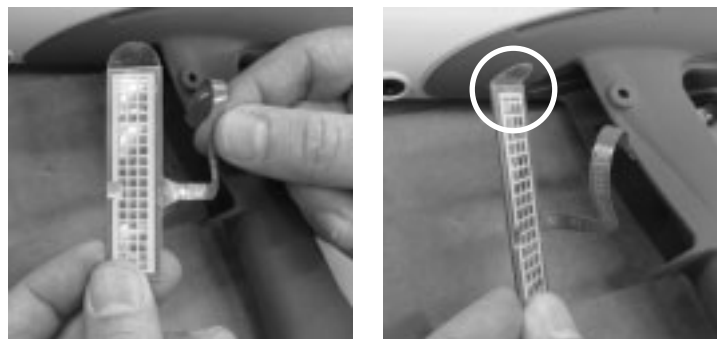

Figure 20 Installing the Trigger Switch – Step 3
3. See Figure 20. Straighten the ribbon cable, then bend the pull tab at the top of the switch so that it is perpendicular to the switch.